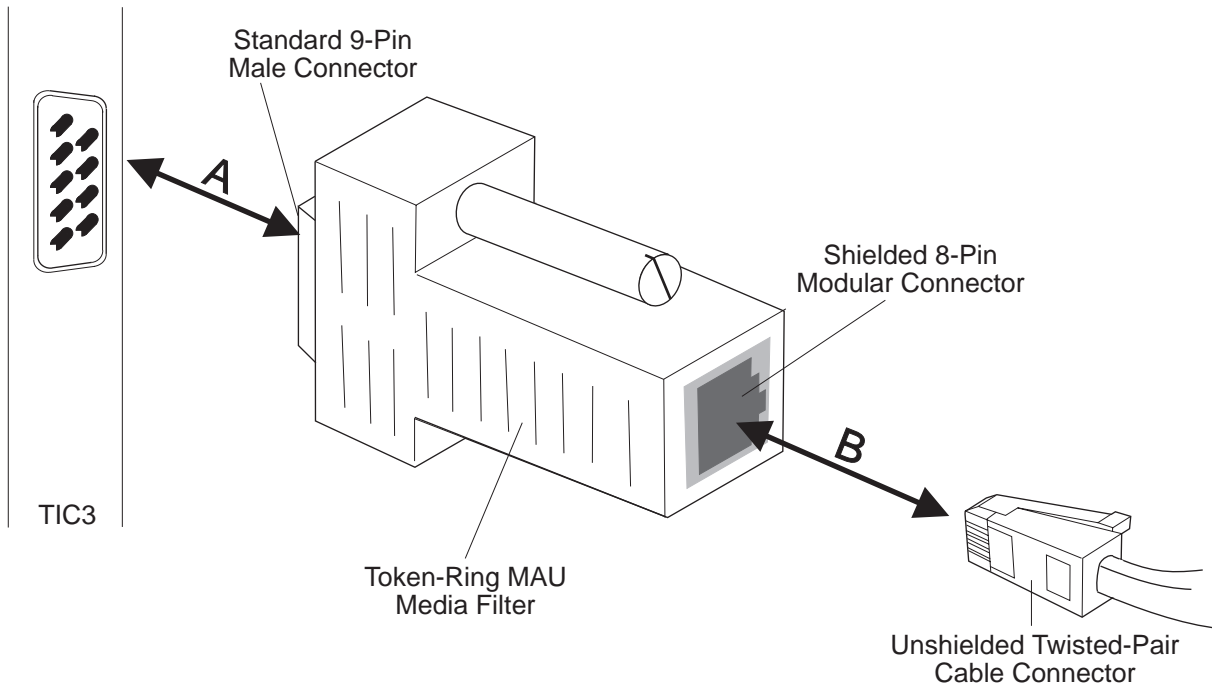

Figure C-6. Installing or Removing a Token-Ring UTP Cable and Media Filter
**Step 2** Pinch the UTP cable connector and pull it out (see A in Figure C-6 on page C-6).
- Step 2** Loosen the retaining screws and pull out the media filter (see A in Figure C-6).
- Step 2** Insert the media filter into the TIC3 connector and tighten the retaining screws (see A in Figure C-6).
- Step 1** To plug in a UTP cable, push the connector into the media filter socket until it clicks into place (see B in Figure C-6).